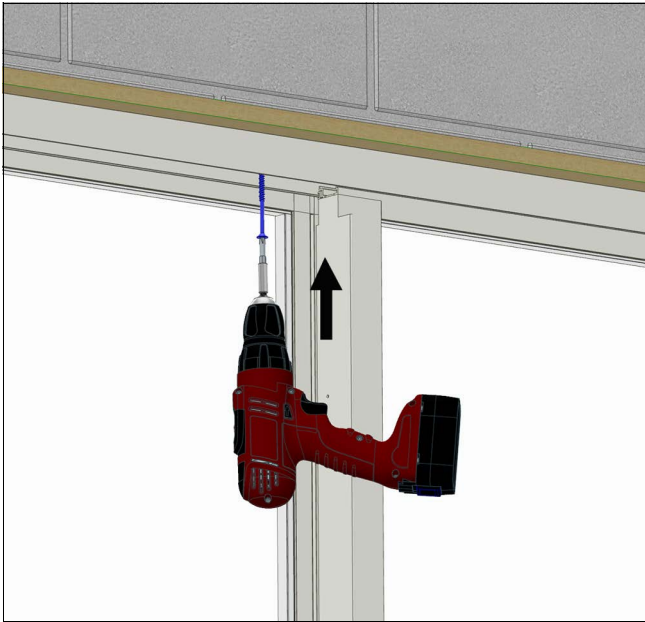

Figure 11
3. Install one fastener through the head jamb to affix the unit to the opening. Follow instructions in the section, “Typical Anchors on page 9”. See Figure 11.